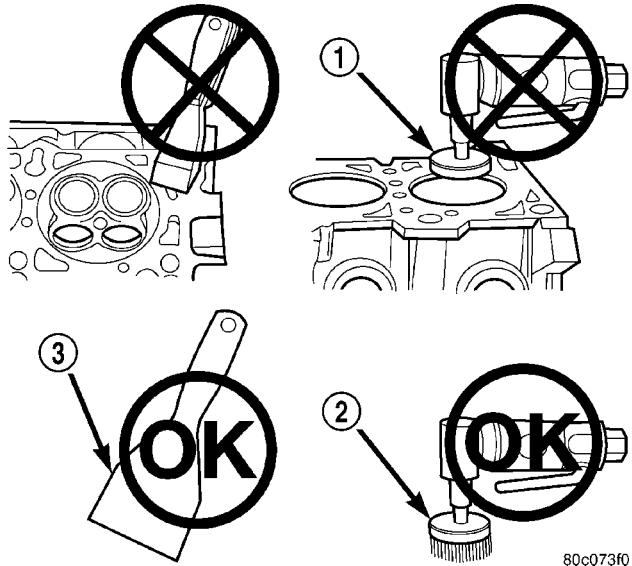

Fig. 3 Proper Tool Usage For Surface Preparation
- High speed power tool with an abrasive pad or a wire brush (Fig. 3)
- Plastic or wood scraper (Fig. 3)
- Drill motor with 3M Roloc™ Bristle Disc (white or yellow) (Fig. 3)